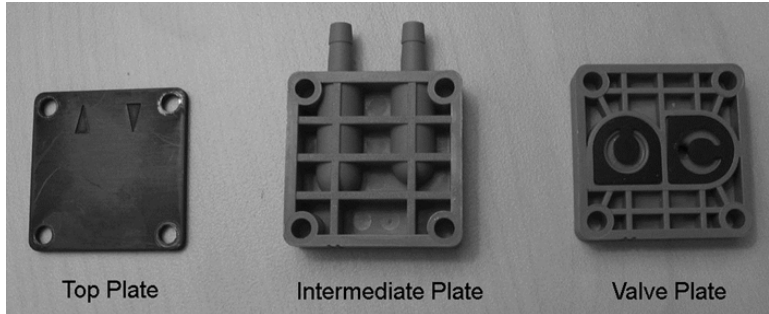

Figure 69: ICR Pump Plates
2. Using a Torx T10 driver, loosen the four screws on the pump (Figure 69) and lift the black head plate from the intermediate plate (Figure 70).
3. Remove the intermediate plate and remove the valve plate (Figure 69). If necessary, carefully clean the head and intermediate plates of any residue. Be careful not to scratch the parts.